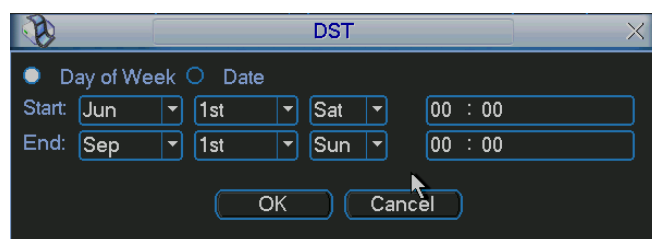
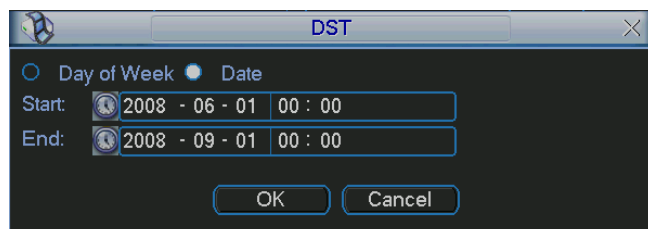

Figure 4-37
Figure 4-38
- DST: Here you can set DST time and date. Please enable DST function and then click set button. You can see an interface is shown as in Figure 4-37. Here you can set start time and
end time by setting corresponding week setup. In Figure 4-37, enable date button, you can see an interface is shown as in Figure 4-38. Here you can set start time and end time by setting corresponding date setup.